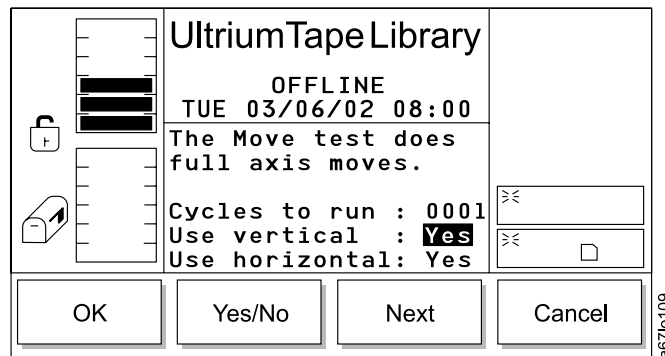

Figure 176. Use Axes Dialog
- If **Next** is selected, the next field in the list becomes the active field (see Figure 176).